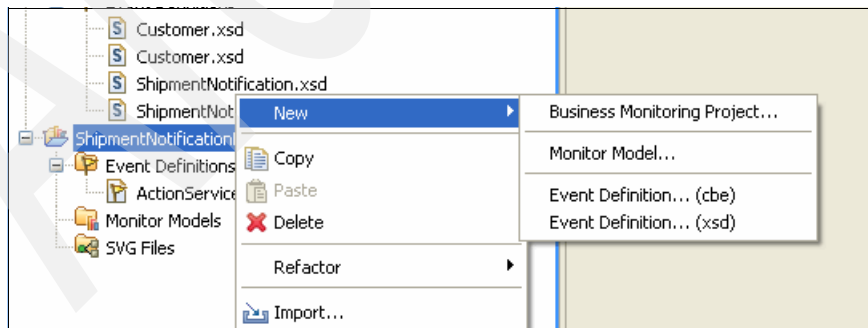

Figure 9-42 *Creating a new monitor model*
1. In the Project Explorer (Figure 9-42), right-click **ShipmentNotificationBM** and select **New** → **Monitor Model**.